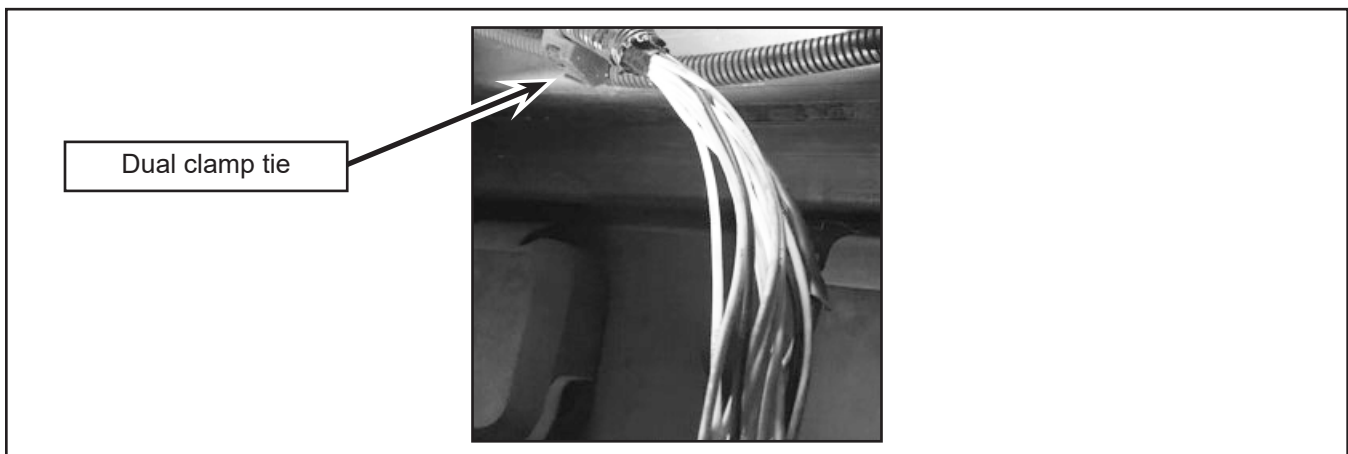

Figure 4 - View of the Cut Section of WHA 64 Removed from the Convoluted Tubing
- 1.10. For the left section of the WHA 64 (section going towards the center of the vehicle), remove the wires from the convoluted tubing up to the dual clamp tie (the tape and the convoluted tubing can be removed) (Figure 4).